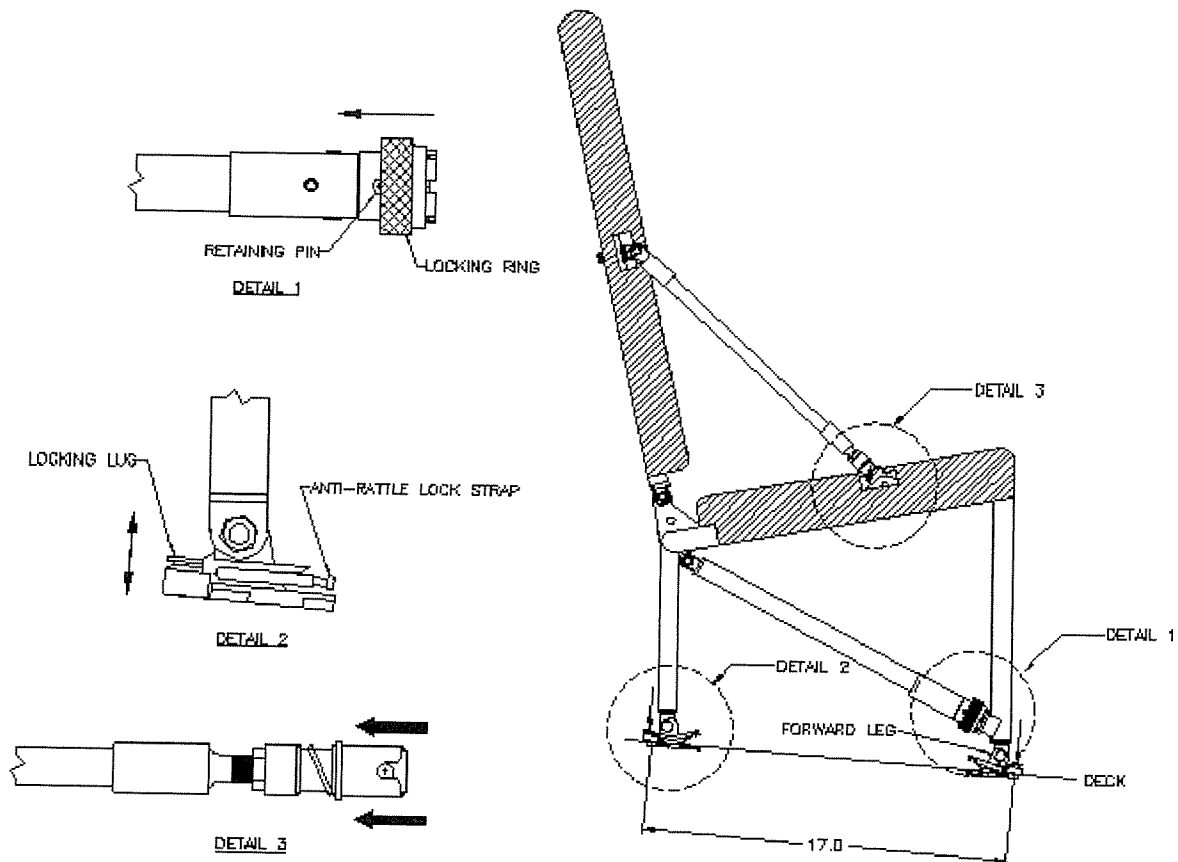

Figure 1.2.1 Seat Installation. Optional Headrest Not Shown.
2. Unfold seat back and upper diagonal arms. Position the arms so the quick-release fittings are over the corresponding pins on the seat frame. Retract the spring-loaded collar on one fitting, push the fitting over the pin, then release the collar. Repeat for the opposite side (detail 3, Figure 1.2.1).
3. Unfold rear legs and position the seat over the seat tracks at the desired fuselage station. Drop the forward feet into the tracks (locking lugs must be in the retracted position), slide forward or aft 1/2 inch, and push the locking lugs down to lock the forward feet into the track (detail 2, Figure 1.2.1).